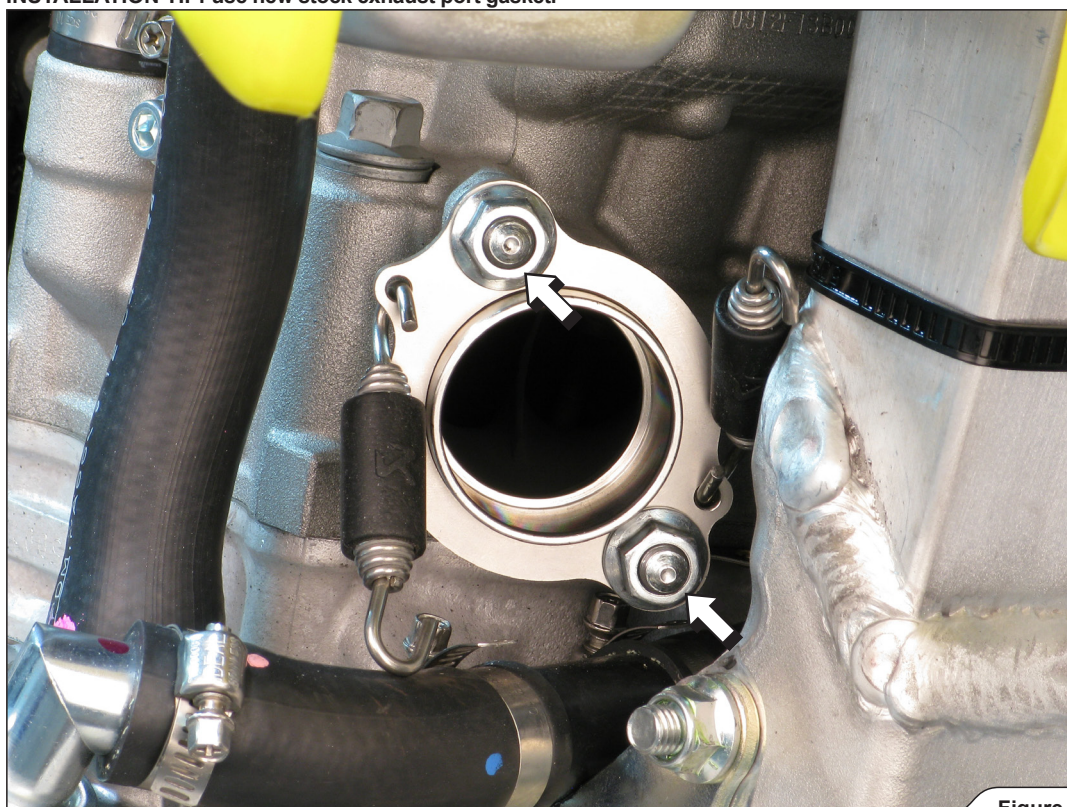

Figure 6
2. Install the assembled sleeve, flange and springs onto the exhaust port and hand tighten the two marked stock nuts (Figure 6).